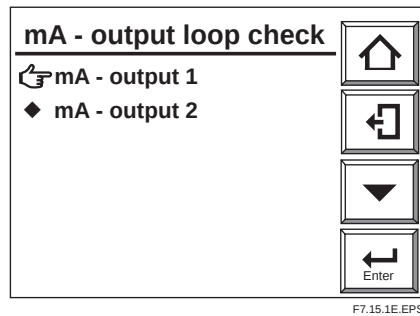

Figure 7.15.1 "mA-output loop check"
- (1) Press the Setup key on the basic panel display to display the Execution/Setup display. Then select Maintenance in the Execution/Setup display.
- (2) Select “mA-output loop check” in the Maintenance panel display to display the “mA-output loop check” display, enabling you to check “mA-output1” and “mA-output2.” Select the desired output terminal for current-loop checking (see Figure 7.15.1).
- (3) At the time of entering the numeric-data entry display, the output current will change to 4 mA (default value). If the desired current is entered, the corresponding output will be provided.